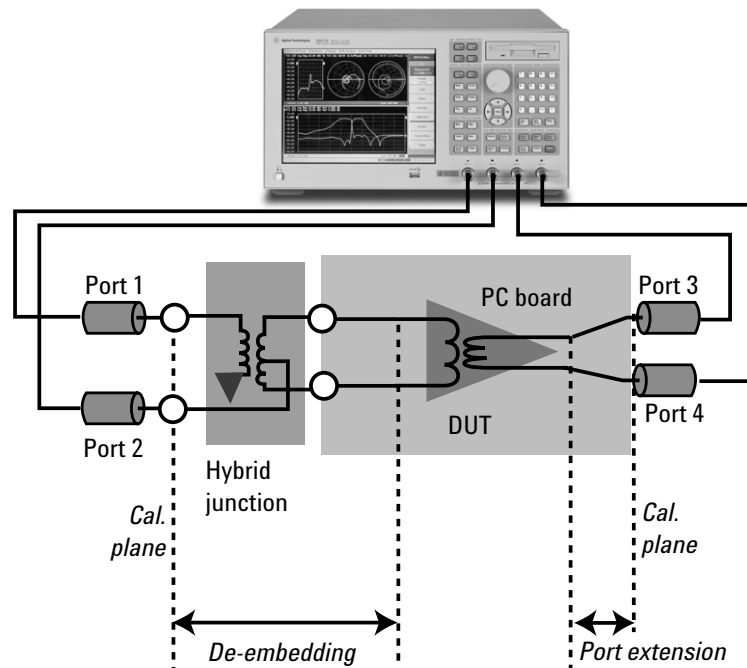

Figure 1. True differential measurement method using hybrid junctions
Differential amplifiers can be fully characterized using hybrid junctions with the Agilent E5070B/71B ENA Series 4-port network analyzers. As shown in Figure 1, a differential amplifier is driven by a true differential signal for the measurement. The characteristics of hybrid junctions need to be compensated to get the actual amplifier's response. The ENA Series network analyzers provide this compensation using the 4-port de-embedding function. The ENA also provides the measurement results converted from S-parameters to mixed-mode S-parameters using the fixture simulator function. In this way, the true differential characteristics of differential amplifiers can be measured.
Step 3: Measure the differential amplifier using the measurement setup shown in Figure 1. Thus, the DUT can be driven by differential signals. The ENA's 4-port de-embedding function removes the effect of the hybrid junction.